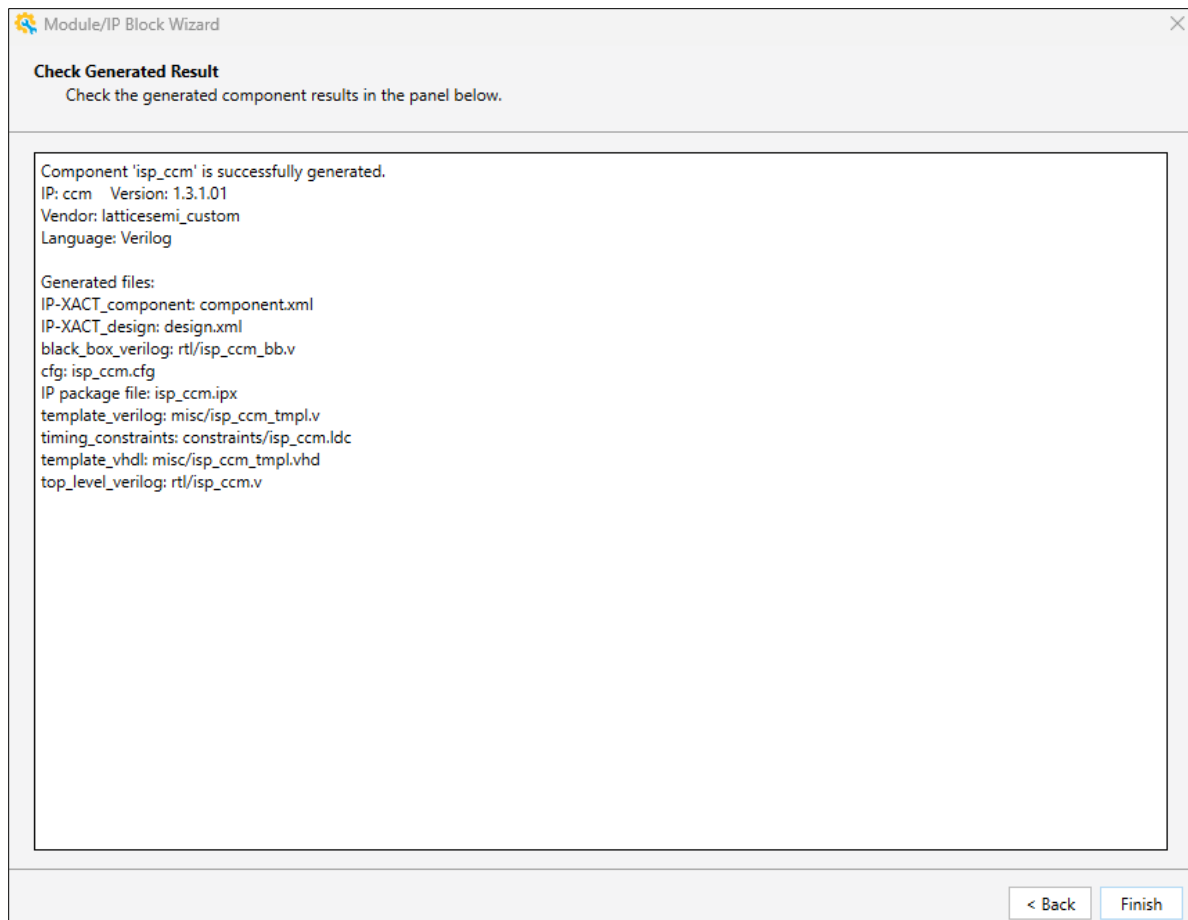

Figure 7.23. Color Correction Matrix IP Check Generated Result Window
4. After the generation is completed, click **Finish** in the **Check Generated Result** window (Figure 7.23).